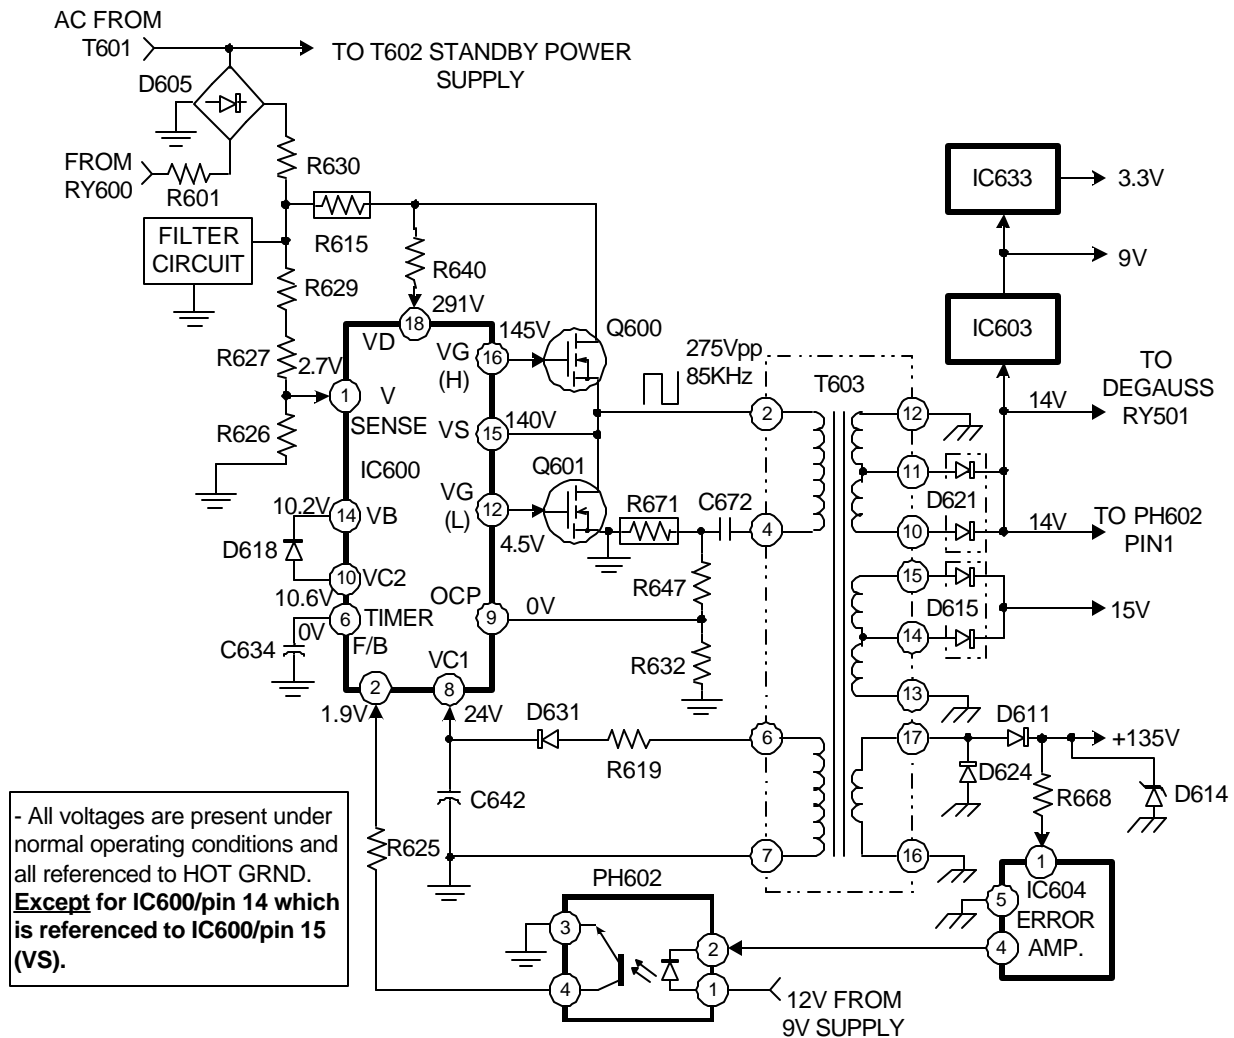

FIGURE 3-3 - MAIN SWITCHING POWER SUPPLY
Reference Figure 3-3 for the following circuit description:
**Over Current Protection (OCP): ref. Figure 3-3**
**Troubleshooting Tips (ref. Figure 3-3)**
- IC600 Feedback circuit. The amount of current feedback can be determined by monitoring the voltage drop across R625. The minimum current feedback is 80uA, which is a minimum voltage drop of 37.6mV. In normal operation, this voltage drop is approximately 223mV. If the voltage drop is below 37.6mV, suspect components in the feedback path e.g. PH602 and IC604. Reference Figure 3-3 for proper voltages at these components.